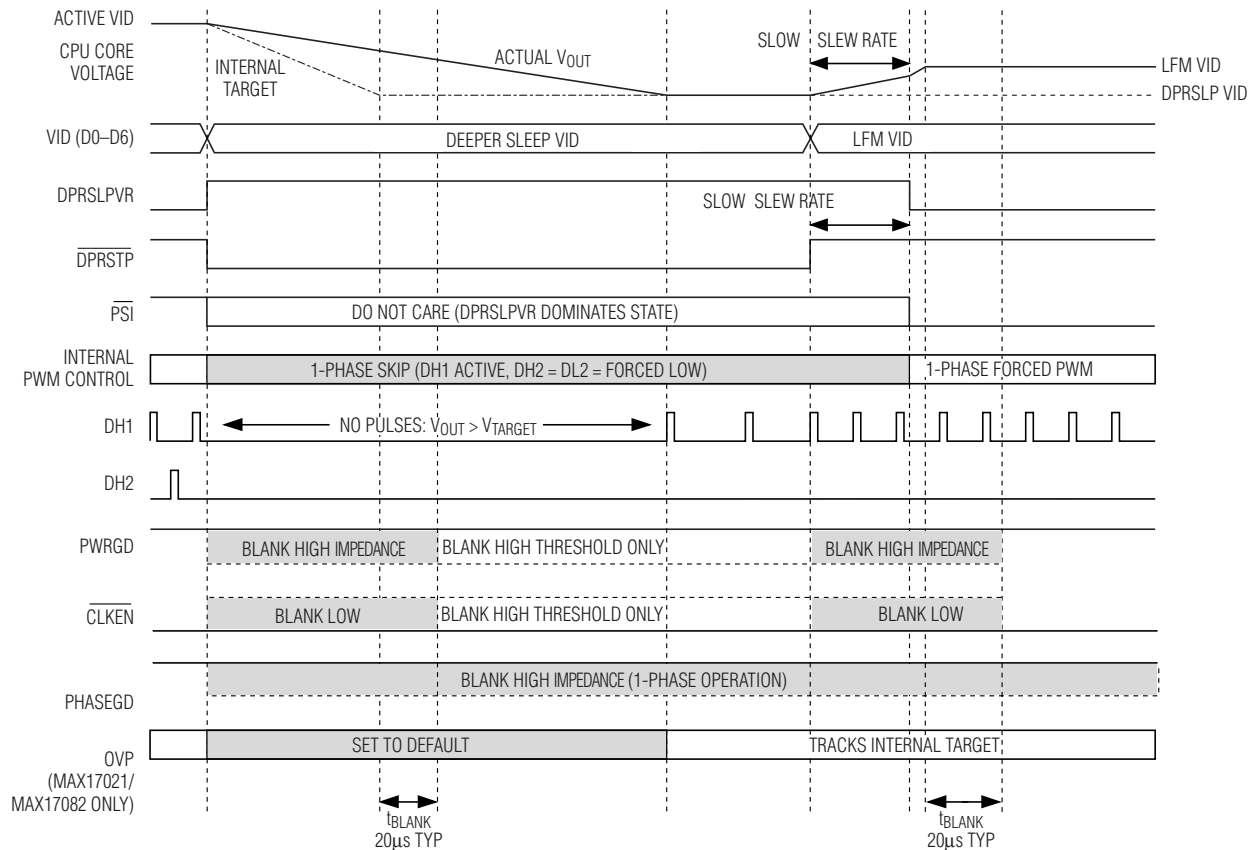

Figure 7. Slow C4 Transition
- IMVP-6+ Slow C4 Deeper Sleep Exit:** When exiting deeper sleep (DPRSLPVR high, DPRSTP pulled high) while the output voltage is regulating to the deeper sleep voltage, the MAX17021 remains in 1-phase skip mode and ramps the output voltage to the LFM DAC code provided by the processor at 1/4 the slew rate set by RTIME. The controller blanks PWRGD, PHASEGD, and CLKEN until 20μs after the transition is completed. See Figure 7.